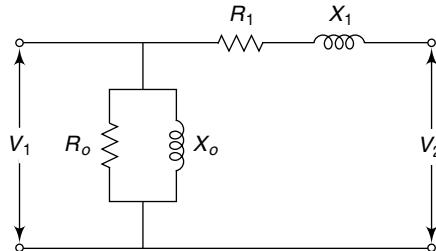

Fig. 3.17 Circuit diagram for Example 3.26
3.26 Calculate the values of R_o , X_o , R_1 and X_1 in the diagram shown in Fig. 3.17 of a single-phase 8 kVA, 22/440 V, 50 Hz transformer of which the following are the test results:
Figure 3.17 shows the equivalent resistance R_1 and reactance X_1 referred to the low voltage side or primary side.